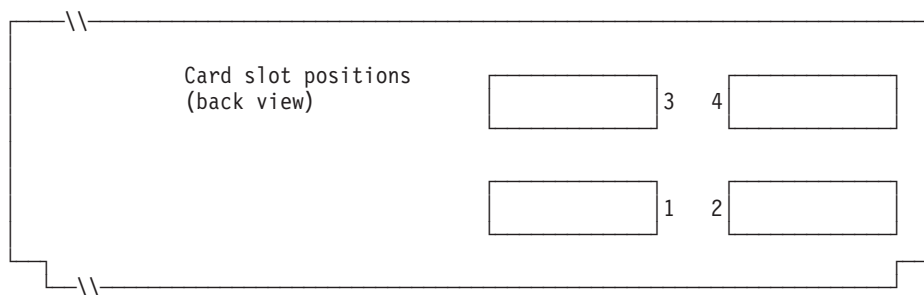

Figure 83. Rear of 4693-5x1 or 4693-7x1 Point-of-Sale terminal
4. Mark an **X** on Figure 83 in each card slot that has a Dual Asynchronous Adapter installed **for use by terminal applications**. Do not mark an X if the card is to be used by applications other than terminal applications use.